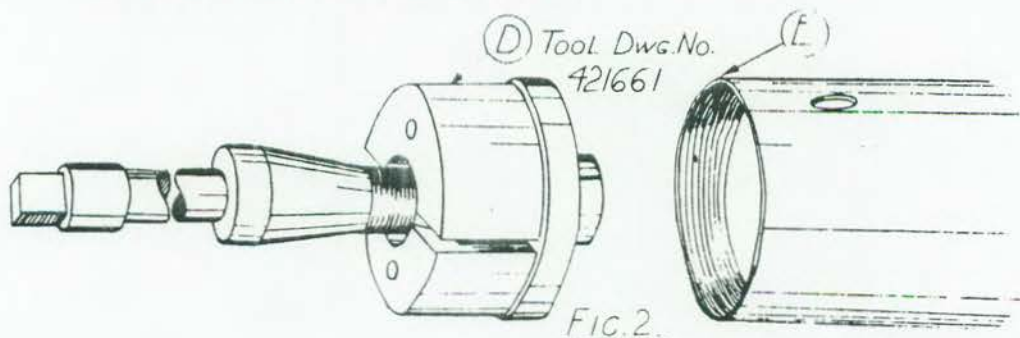

Fig. 2
- (25) INSERT (D), FIG. 2, IN JACKET (E) DIRECTLY UNDER THE DENT. BY FORCING (D) AGAINST THE WALLS OF JACKET AND HAMMERING ON THE OUTSIDE, MOST DENTS CAN BE REMOVED. * COAT THREADS OF JACKET AND TRUNNION BLOCK WITH SOLDER. CONTINUE HEATING. NOW SCREW TRUNNION BLOCK INTO JACKET AND TIGHTEN UP TO THE ALIGNMENT MARK.
*NOTE: BOTH THE CLEANING AND STRAIGHTENING TOOLS (A) AND (D) ARE INSERTED IN EACH END OF THE JACKET.